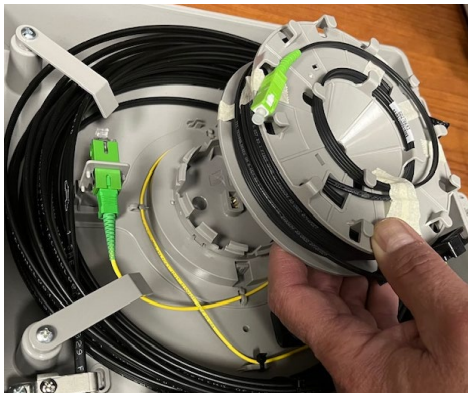

Figure 6
8. Snap the Reel into the lower plate, partially tighten central screw while still allowing Reel to rotate (Figure 6).